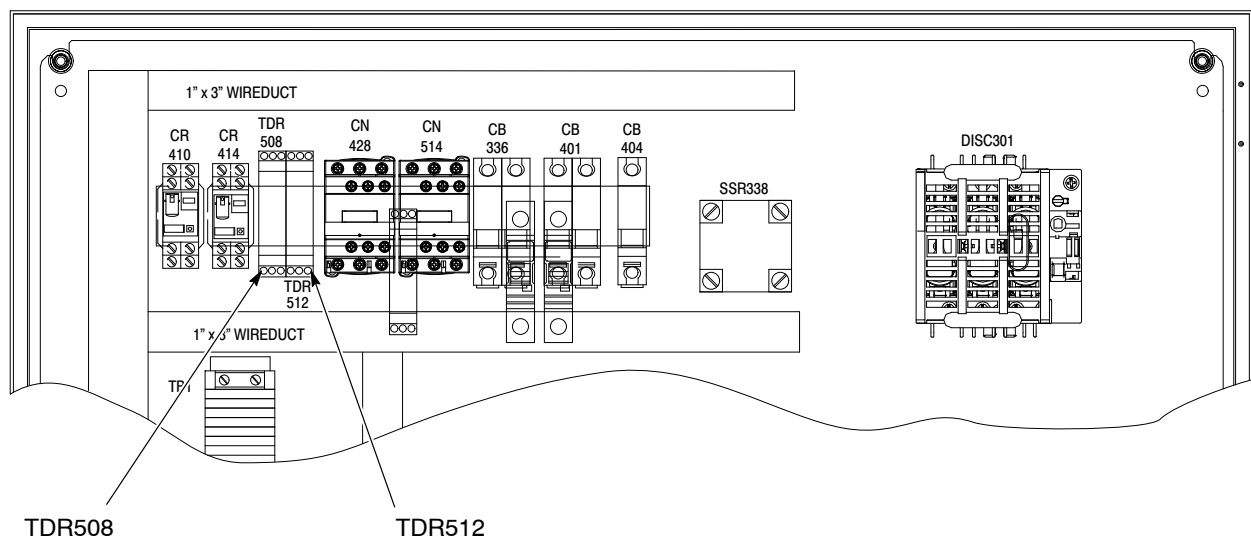

Figure 3-3 System Motor Starter Panel – Transfer Pump Delay Timers
2. See Figure 3-3. Set the transfer-pump delay timers TDR508 (feed hopper) and TDR512 (satellite hopper) as follows: